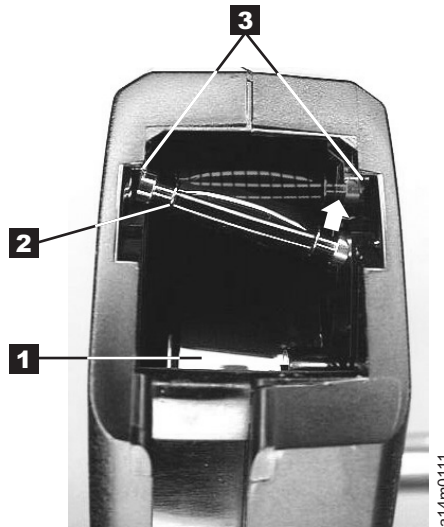

Figure 51. Placing the dislodged leader pin into the correct position.. The cartridge door is open, showing the leader pin out of position
1. Slide open the cartridge door (see **1** in Figure 51 on page 160) and locate the leader pin **2** (you may need to shake the cartridge gently to roll the pin toward the door).